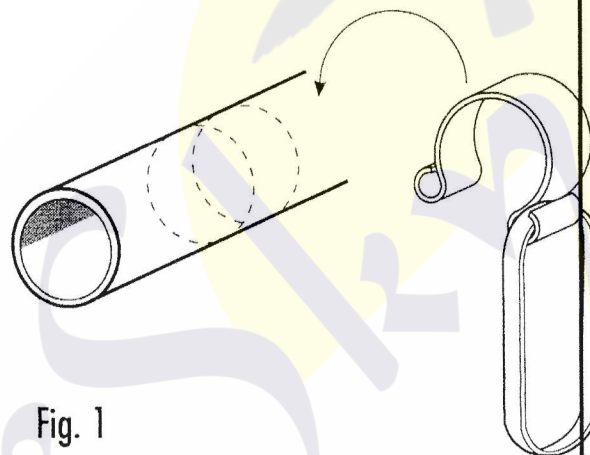

Fig. 1
- Fig.1 - Place the new rubber over both the sewn in tape loop and the 'D' ring.